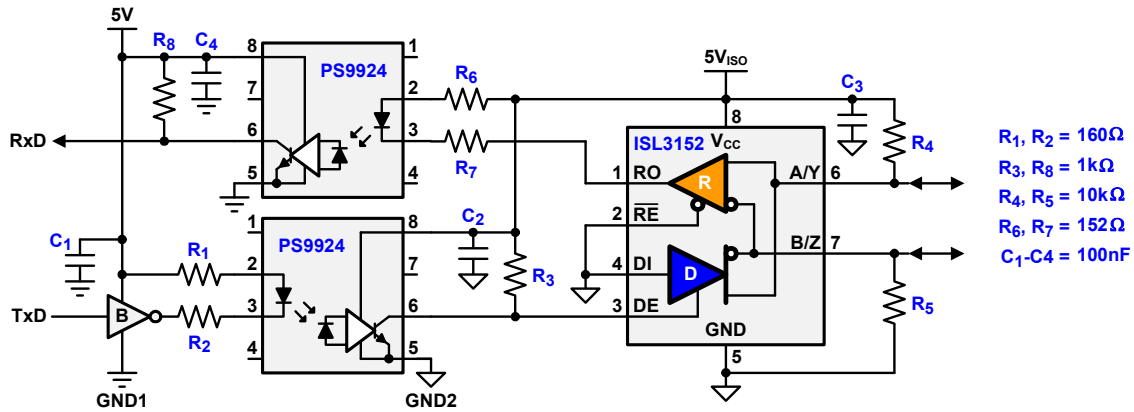
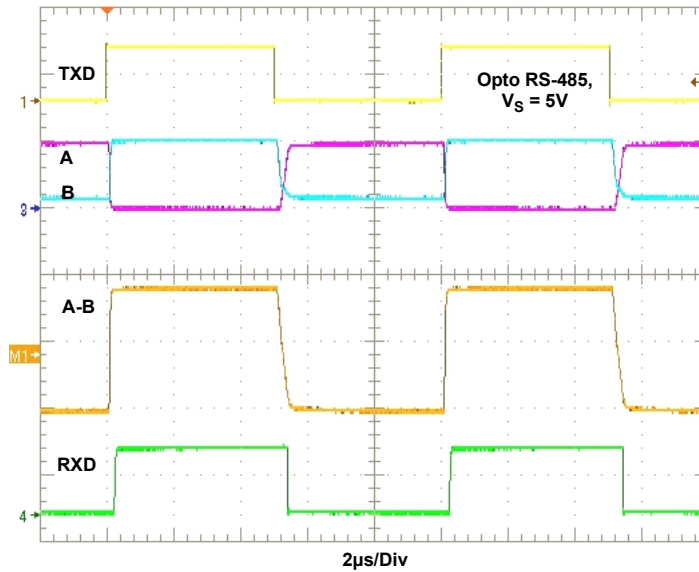

Figure 7. 7.5kV Isolated RS-485 Interface
Figure 10. Signal Waveforms of the Circuit in Figure 7
- Figure 7. 7.5kV Isolated RS-485 Interface 4
- Figure 10. Signal Waveforms of the Circuit in Figure 7 6
Figure 7 shows an isolated RS-485 interface using PS9924 optocouplers rated for 7.5kV isolation and up to 10Mbps data rate. The RS-485 transceiver ISL3152 is specified with a minimum data rate of 1Mbps and a typical output voltage of 3.1V across a differential load of 54Ω, which is about 60% more than that of standard transceivers.
Figure 10 shows the signal waveform of the isolated interface circuit in Figure 7 on page 4.